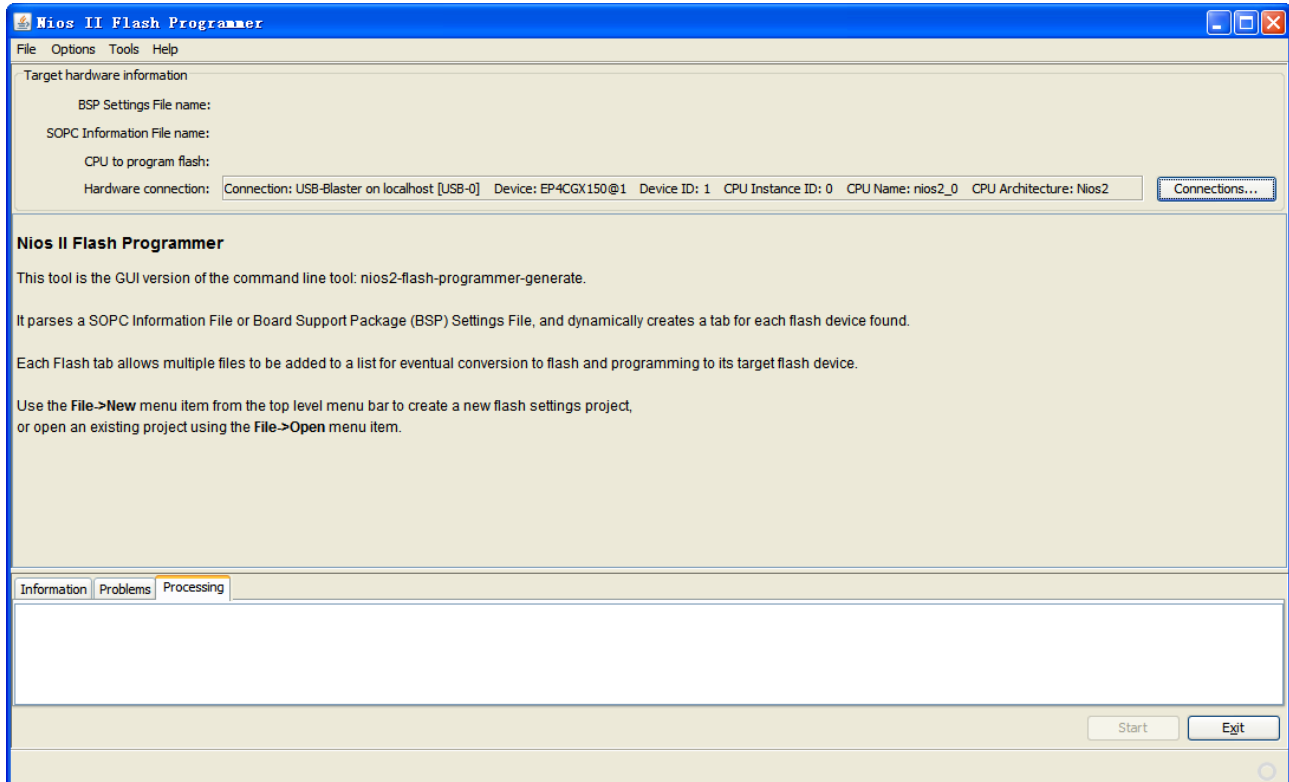

**Figure 3-22 Generate BSP**
1. In the NIOS II SBT for Eclipse, right-click **My\_First\_Niosii\_bsp** and choose **Nios II > Generate BSP**. See Figure 3-22.